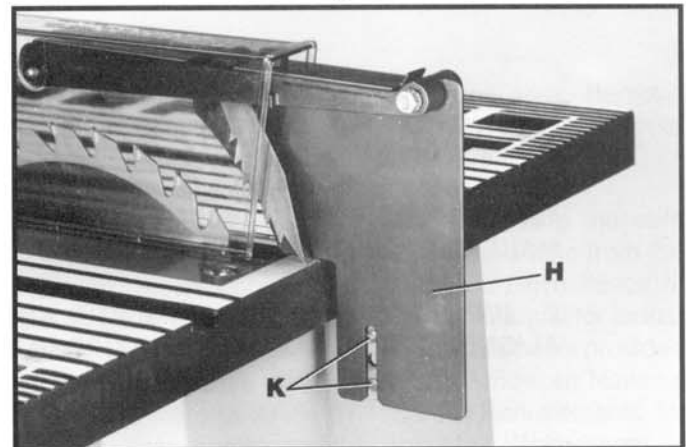

Fig. 7
6. Position the splitter (H) Fig. 7, on the splitter support bracket as shown, making certain the two protrusions (K) on the splitter support bracket are inside the slot of splitter (H).